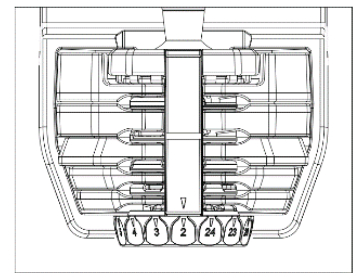

Figure 1
3. The two adjustment knobs have a weight increment range from 2 Kilograms to 24 kg ( 5 to 52.5 lbs) . To properly select the given weight [e.g. 9 kilogram ( 20 lbs)], turn both adjustment knobs until the number (9) is aligned with the arrow shown on the outer edge of the nameplate (Figure 1).